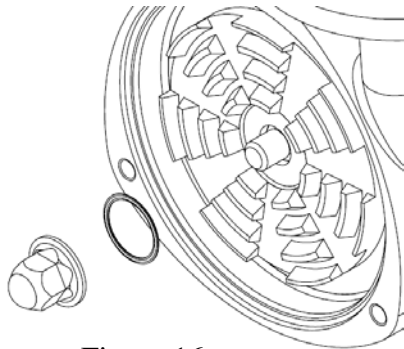

Figure 16
6. Install the impeller nut and impeller nut gasket, figure 16.